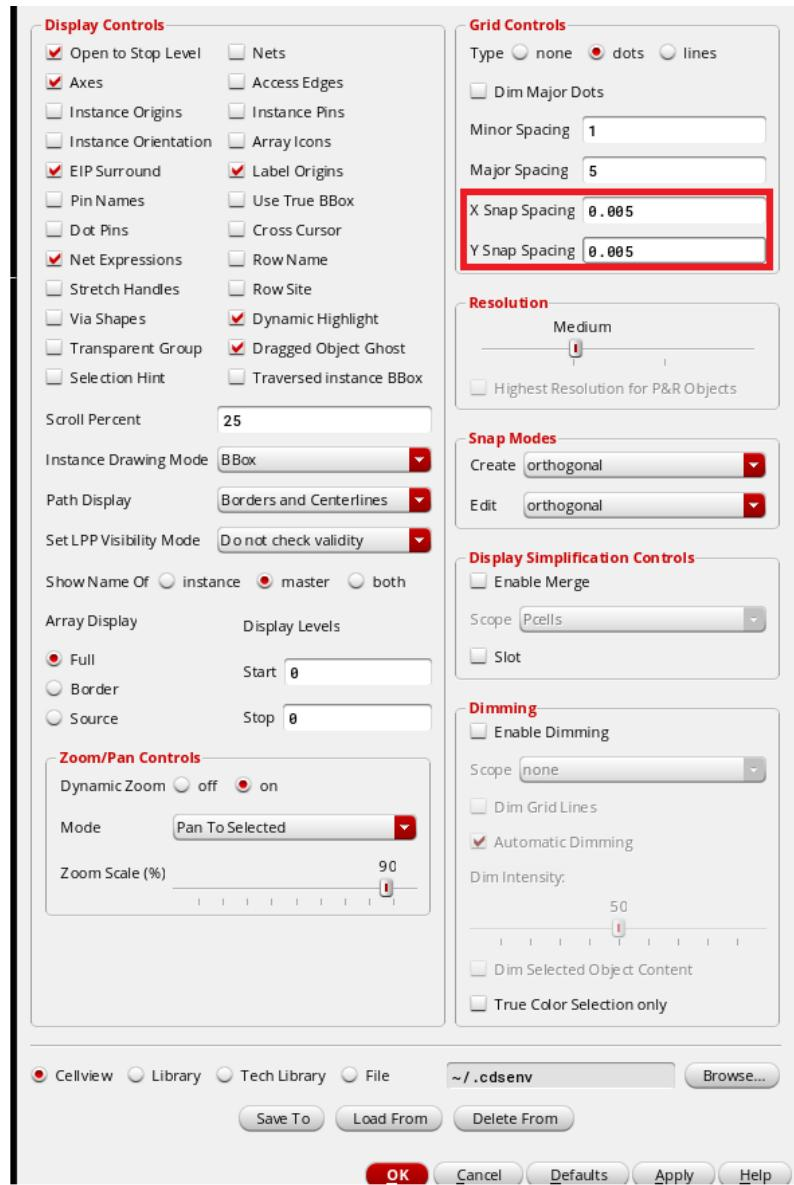

Figure 15: Settings for layout window
- The first thing you should do after starting the layout is to fix the grid sizing. Go to *Options > Display*, or press the "E" key which is the shortcut for that, and the options window (Fig 15) will pop up. The X/Y Snap Spacing parameter is a foundry limitation resulted from the ability to place masks on the wafer, if you make a smaller grid, probably when you check DRC of the layout you will find lots of errors about '*offgrid*', if you don't correct this errors the foundry will refuse your fabrication order. The base unit of length in Virtuoso is 1um. The default value of 0.005 (5nm) is fine. Later you may want to adjust the grid spacing as well to help you design layout for our technology. Click "OK" to save your changes or just keep the defaults.